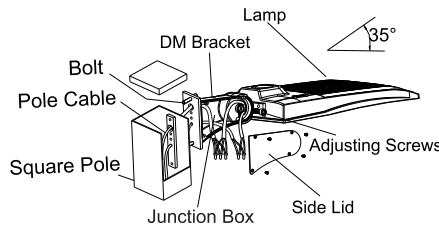

Figure 13
2. DIRECT MOUNTING (DM)
- Step 1: Fix DM bracket to square pole with bolt, open the side lid of DM bracket, pull the wire into junction box, and connect the wire correctly. (Figure 13)
- Notice: Adjustable angle is 0-35° (Figure 13).